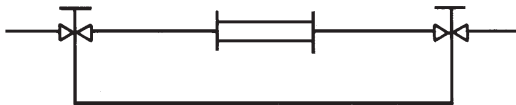

Figure 2.2—Flowmeter bypass
3. If the meter is used in a cryogenic application, (available by special order only; limited to model 7200 meters), install a bypass for cooling the piping without passing fluid through the meter (Figure 2.2). This prevents gasification of the cryogenic fluid and ensures all flow passing through the meter is liquid.